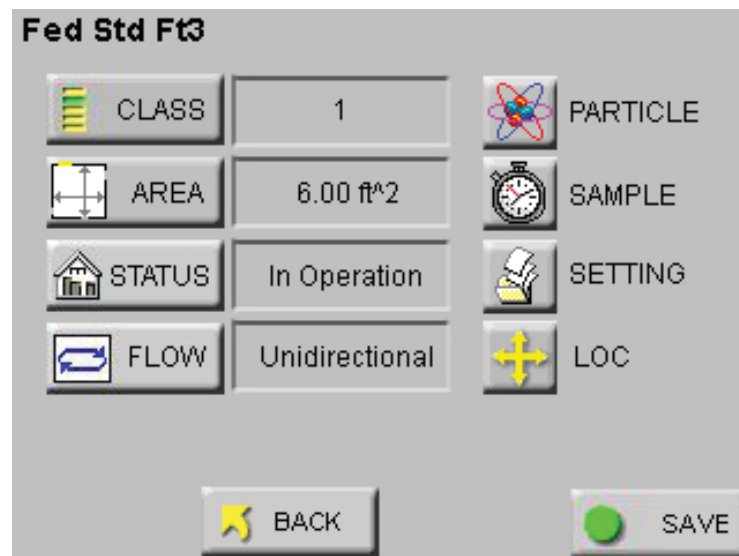

Figure 6-99 Reports Setup Screen
- Press **BACK** to return to the main **REPORTs** screen or Press **SAVE** to save the configuration in the Recipe database. See Figure 6-99.